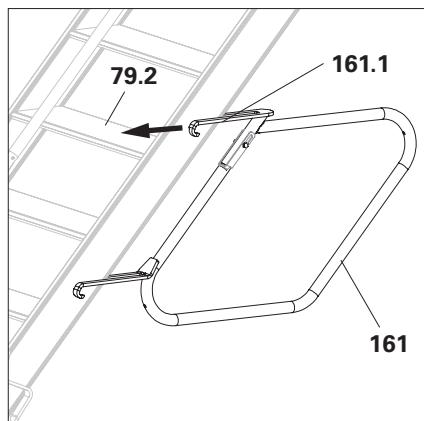

Fig. A8.07a
1. Attach the stair guardrail from the back of the staircase to the stair rail using the mounting rings (**161**). (Fig. A8.07a)